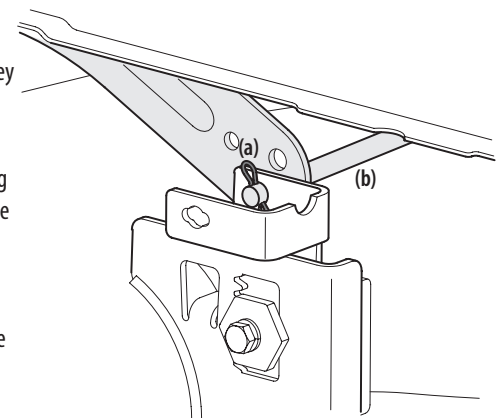

Figure 31
5. Looking at the cutting deck from the left side of the tractor, locate the bow-tie pin (a) that secures the deck support rod (b) on the rear left side of the deck. See Figure 31.